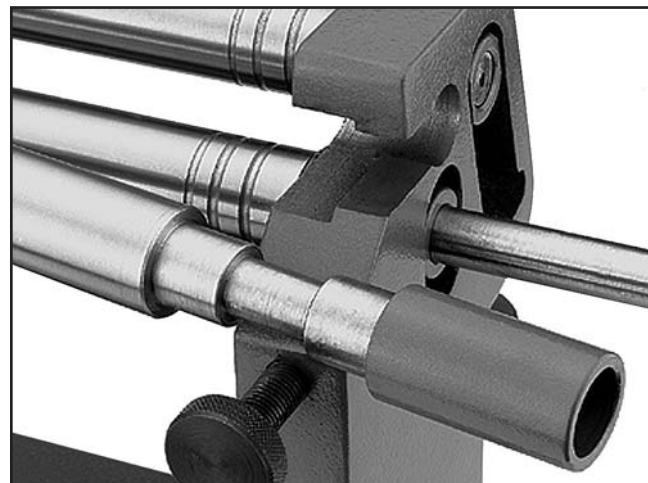

Figure 32. Releasing top roller (T21324 shown).
3. With the help of an assistant, slide and lift the top roller out from the base. Remove the workpiece from the top roller, then place the top roller back onto the base (**Figure 32**).